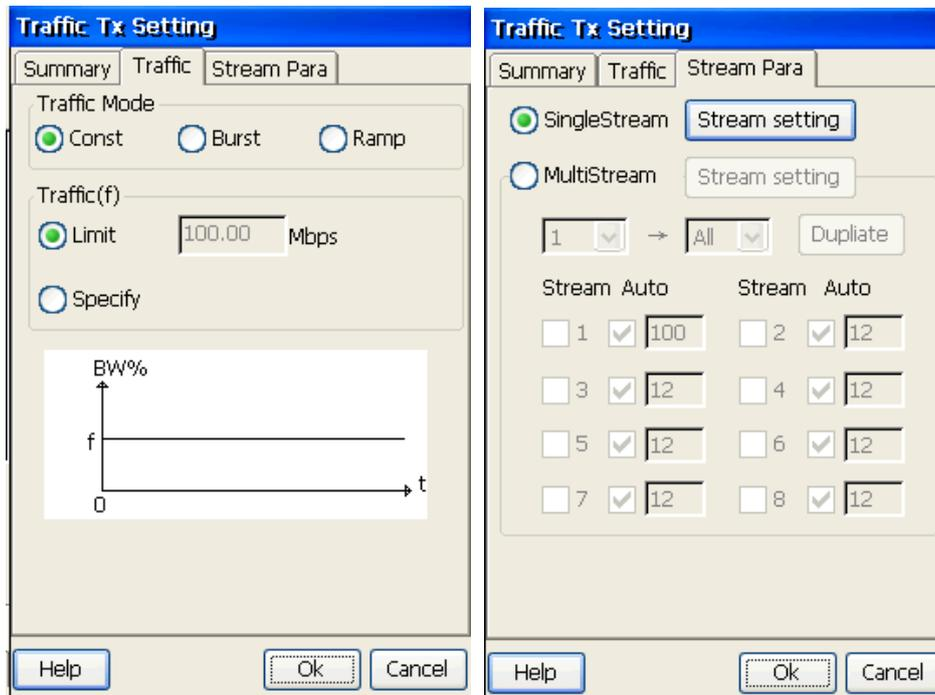

Figure 6.2.2 Traffic Sending Parameters Setting
**Step1:** Click “**Traffic Tx Para. Set**” to enter send parameters setting, as is shown in figure 6.2.2.